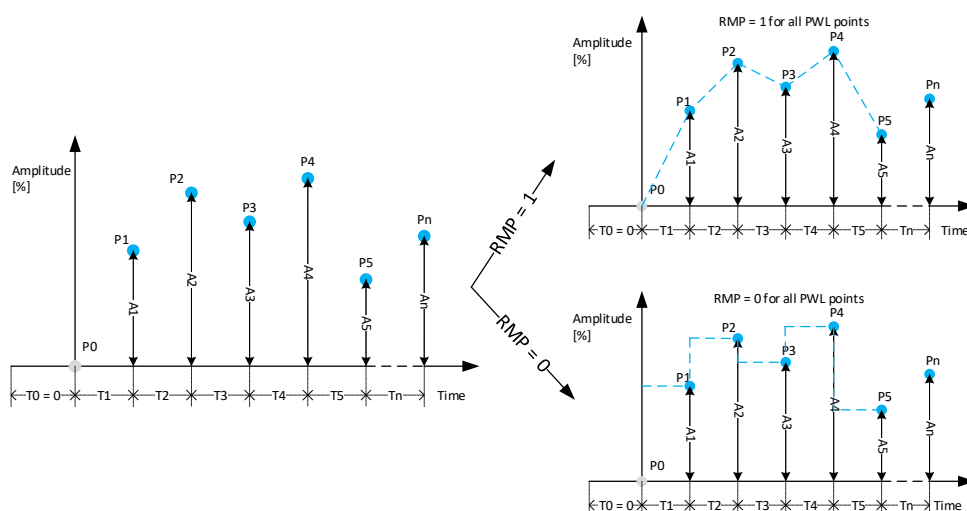

Figure 26: Snippet Example
Figure 26 shows a generic example of a snippet, where Pn represents the PWL pair located at amplitude An and with time step Tn, where n represents the PWL pair number. Note that a snippet played at the start of a non-looped sequence will start from a default point P0 set at zero amplitude; however, if the snippet is not at the start of a sequence or is read during the looping of a sequence, the starting point will be the last played PWL point.
**Note:** The starting amplitude at the beginning of a frame or snippet is dependent on the ending amplitude of the previous frame or snippet. The starting amplitude at the start of a sequence is zero. See Figure 26 for more details.